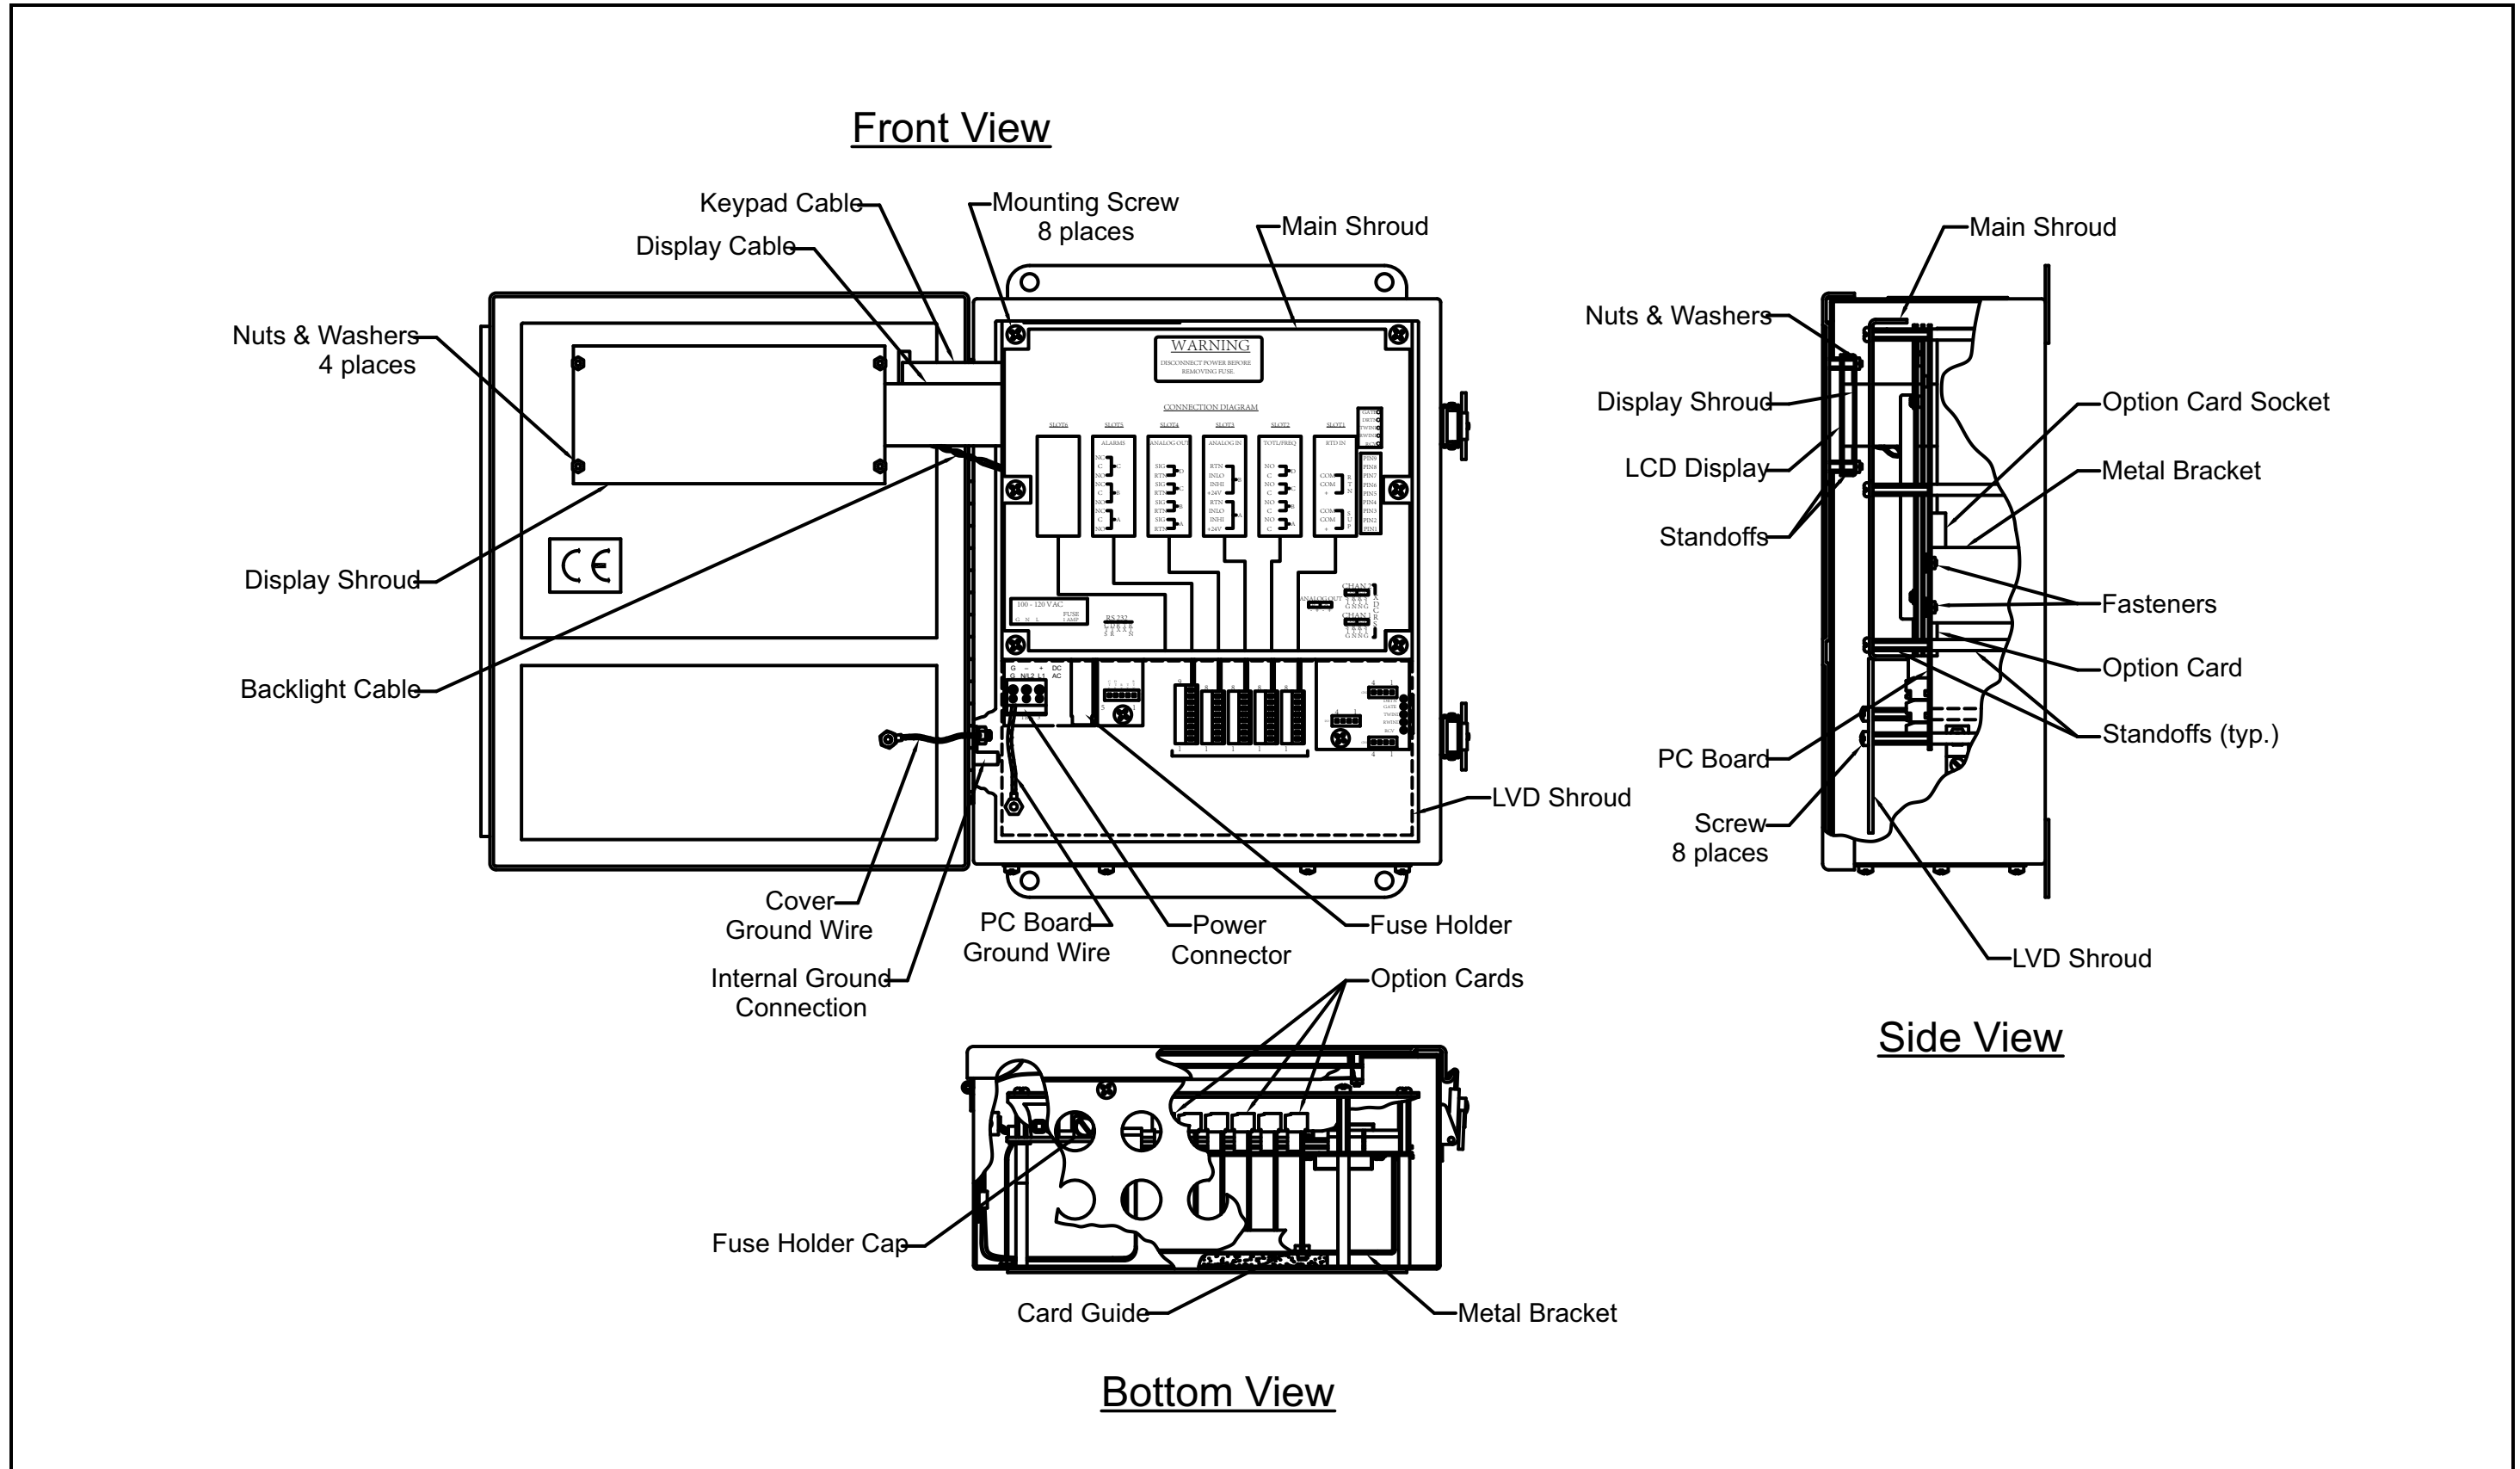
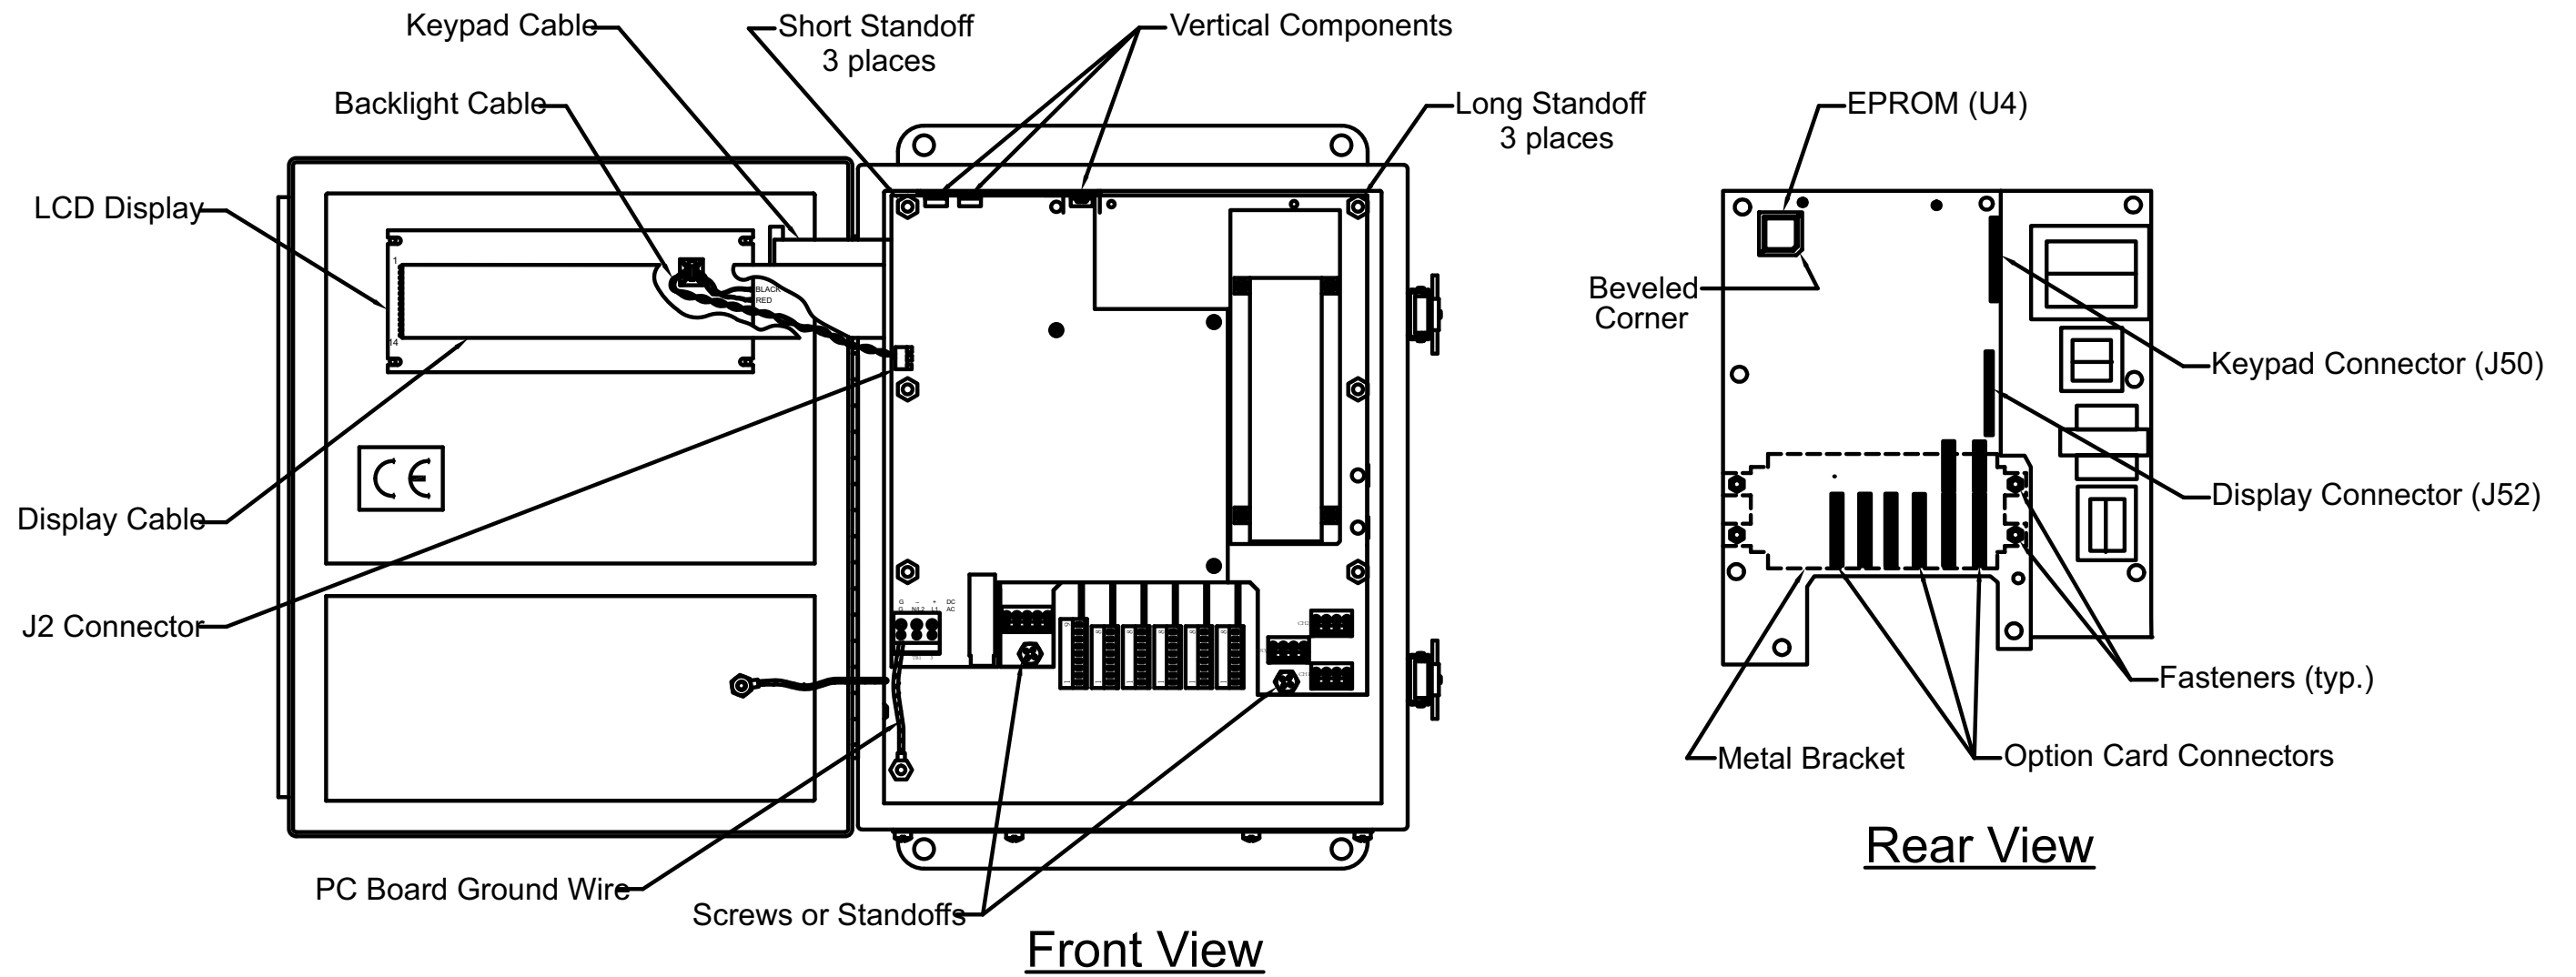

Figure 8: Standard Model GM868 - Electronics Console Assembly
Figure 9: Standard Model GM868 - Printed Circuit Board Assembly
All of the remaining maintenance procedures discussed in this chapter require removing the printed circuit board. To accomplish this task, refer to Figure 8 on page 39 and Figure 9 on page 40 while completing the following tasks:
CAUTION! During this procedure, be very careful not to damage the upright components along the top edge of the printed circuit board (see Figure 9 on page 40). Severe or repeated bending of these components will break their leads.
The Model GM868's *User Program* is stored on an erasable programmable read only memory (EPROM) chip. The EPROM, which is designated as component **U4**, is located in the top left corner of the rear of the printed circuit board (see Figure 9 on page 40). EPROM replacement may be required to replace a defective chip or to upgrade to a newer software version. To replace the EPROM, complete the following steps:
To install an option card, refer to Figure 9 on page 40 and complete the following steps:
5. Place the metal bracket over the option cards, making sure that all option cards are aligned with the plastic card guides in the bracket. Secure the metal bracket to the printed circuit board with the snap rivets provided. See the installed assembly in Figure 8 on page 39.
The Model GM868's measurements are displayed on a two-pane LCD graphic display panel. The LCD display normally provides years of dependable service, but it is easily field-replaceable when necessary. To replace the LCD display, see Figure 8 on page 39 for the component locations, and complete the following steps:
4. Place the new LCD display assembly over the mounting studs on the console cover and fasten it in place with the four standoffs. Make sure that the LCD display assembly is oriented as shown in Figure 9 on page 40.
Whether the printed circuit board was removed for replacement or for one of the other procedures discussed in this chapter, reinstallation of the printed circuit board is the final step in the process. Refer to Figure 8 on page 39 and complete the following steps:
CAUTION! During this procedure, be very careful not to damage the vertical components along the top edge of the printed circuit board (see Figure 9 on page 40). Severe or repeated bending of these components will break their leads.
1. Position the printed circuit board within the electronics console with the top edge tilted forward. Insert the display ribbon cable and keypad ribbon cable connectors into their sockets on the rear of the printed circuit board. See Figure 8 on page 39 and Figure 9 on page 40 to identify the cables and sockets. Note that the keypad cable connects to the upper socket and the display cable connects to the lower socket.